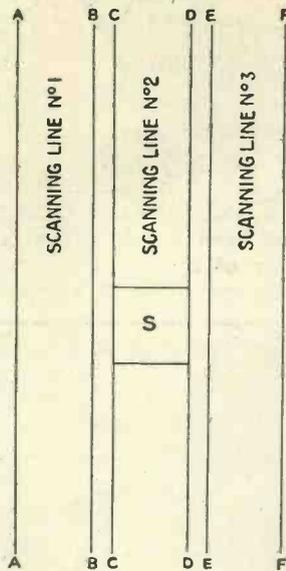

Fig. 1. Spaced scanning line of which the photo-cell takes no account.
To explain this let us examine how they are produced. Turning to Fig. 1 we have three scanning lines, (1) the area between AA BB, (2) between CC DD and (3) EE FF, while be-